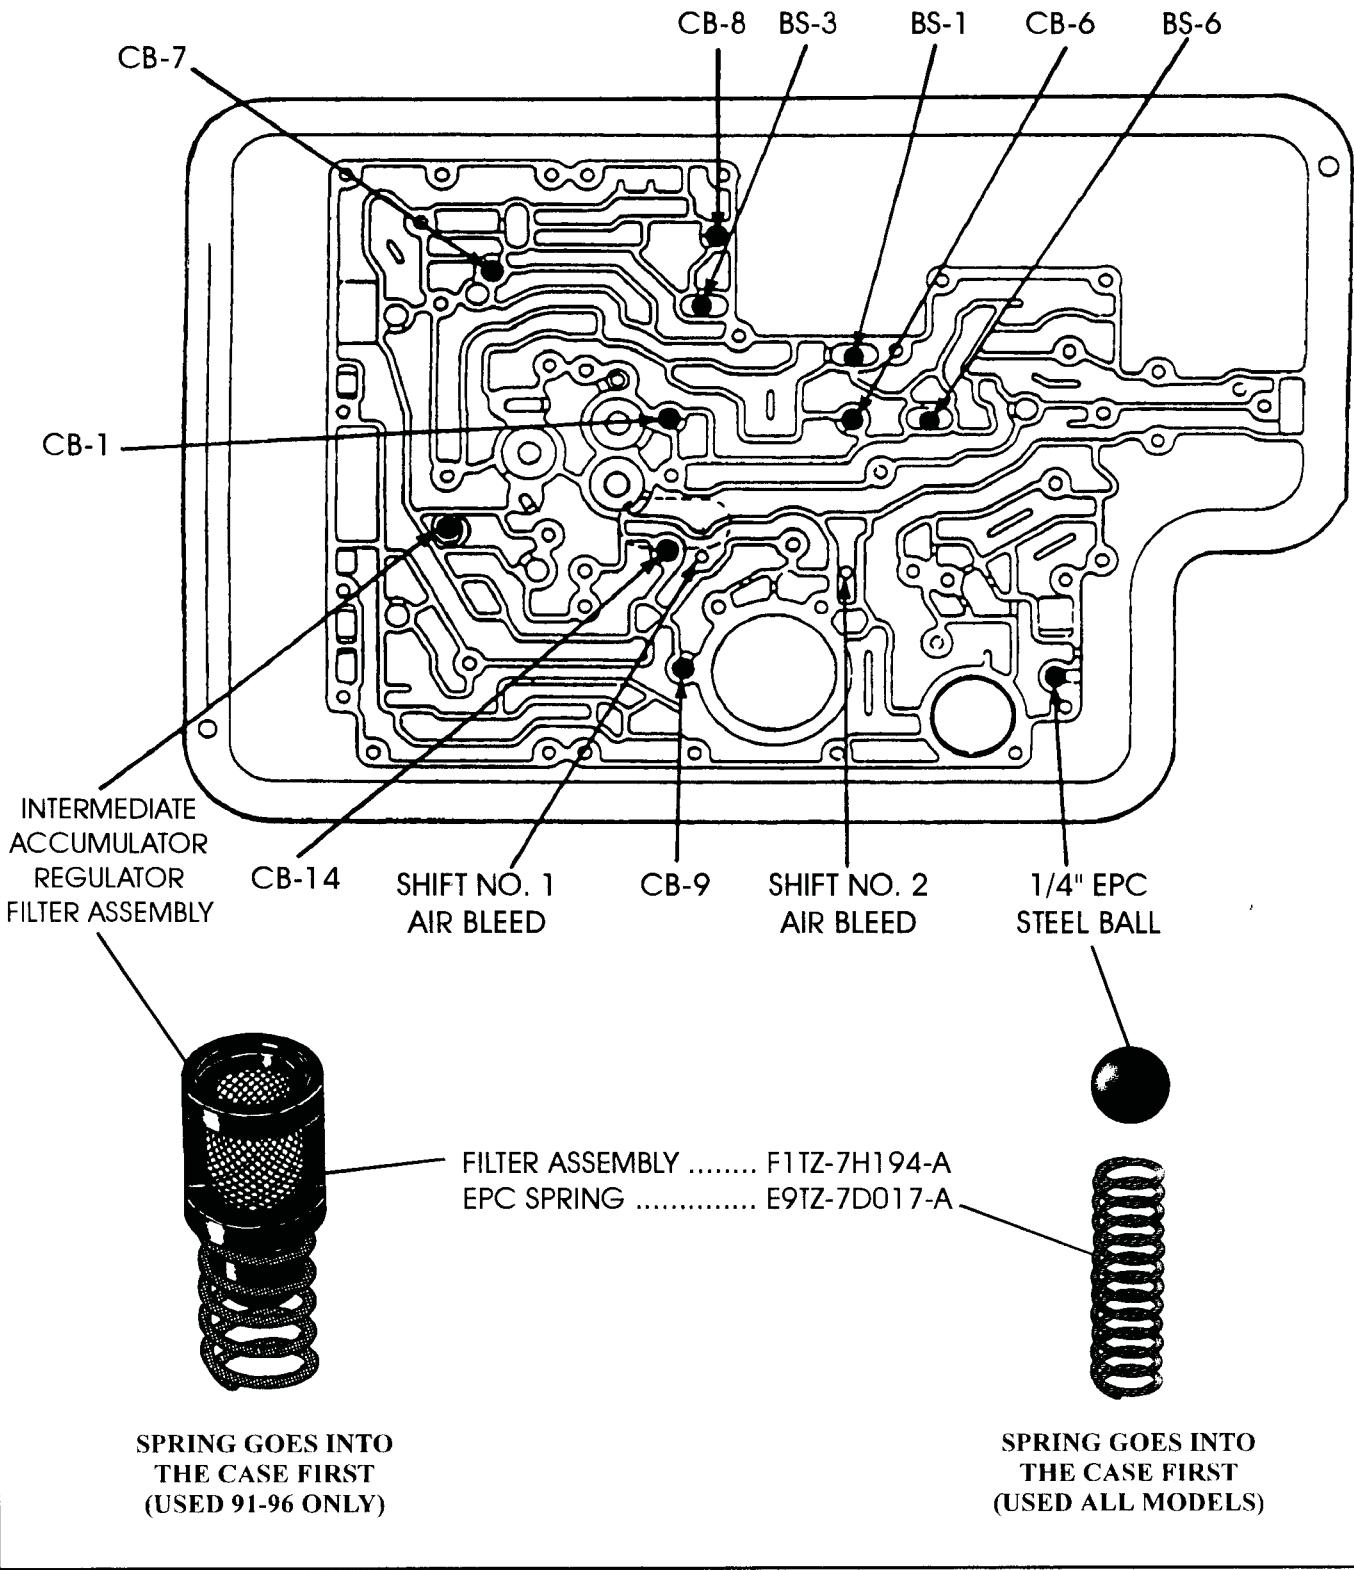

Figure 5
*All 1990-1995 Models* - Requires **Nine** 5/16" rubber checkballs in the case, in the locations shown in Figure 5, and uses a 1/4" steel ball for the EPC blow-off, and the location is shown in Figure 5. Beginning in 1991 there is an added Intermediate Accumulator Regulator Filter Assembly, and the location in the case is shown in Figure 5.